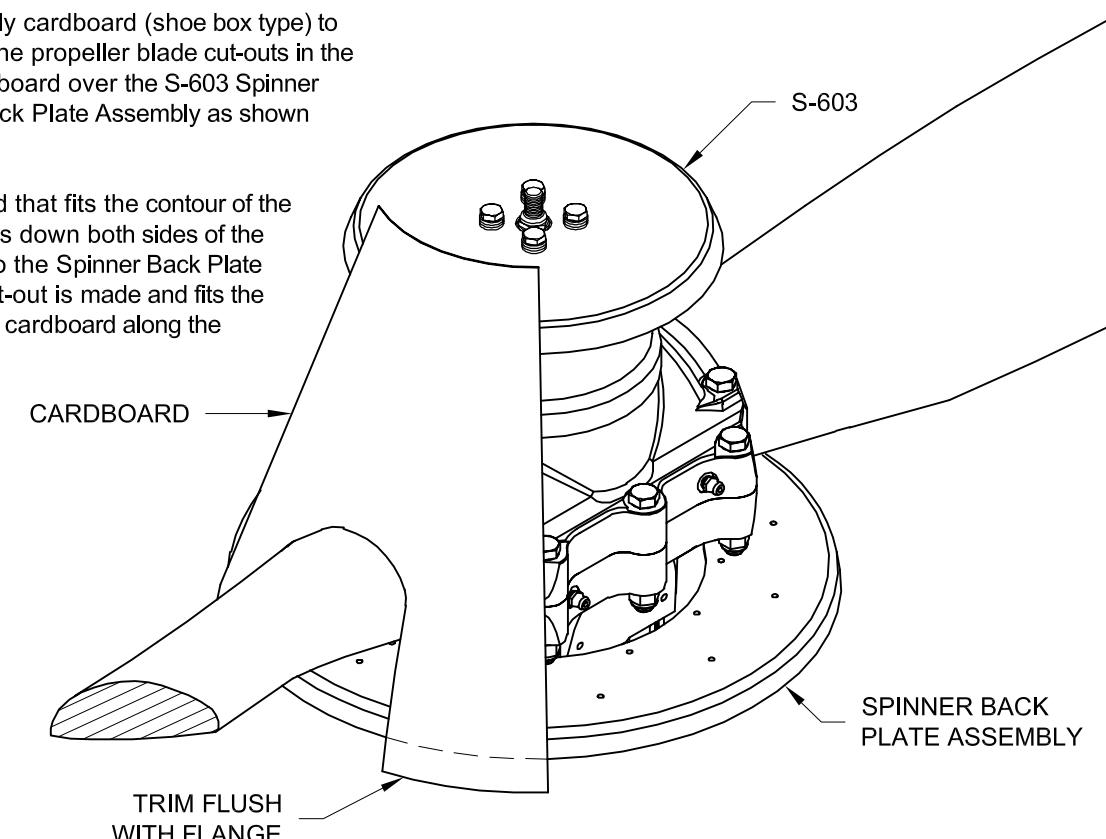

FIGURE 3: MAKING A CARDBOARD TEMPLATE
Step 5: Cut a piece of single-ply cardboard (shoe box type) to use as a template for locating the propeller blade cut-outs in the S-601-1 Spinner. Lay the cardboard over the S-603 Spinner Front Plate and the Spinner Back Plate Assembly as shown in Figure 3.
Make a cut-out in the cardboard that fits the contour of the propeller blade and that extends down both sides of the propeller blade perpendicular to the Spinner Back Plate Assembly flange. Once the cut-out is made and fits the contour well, mark and trim the cardboard along the flange edge of the Spinner Back Plate Assembly as shown in Figure 3.